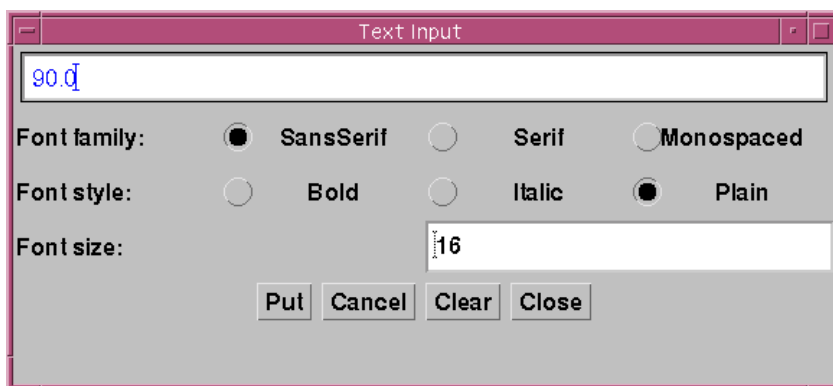

Figure 76. Text Input Window
2. Open the Text Input window shown in **Figure 76** by clicking the text input tool .